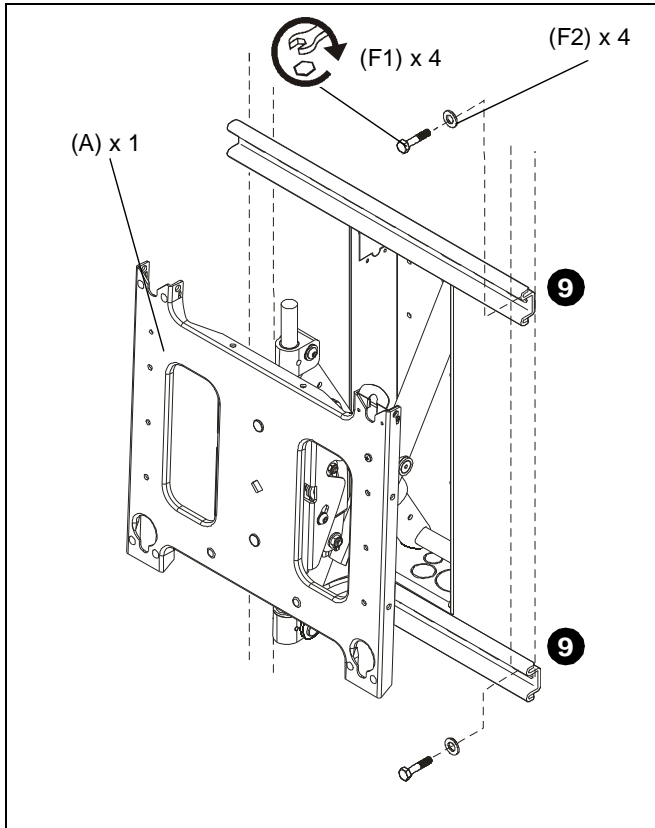

Figure 7
10. Secure mount to studs using four flat washers (F2) and four lag screws (F1). (See Figure 7)